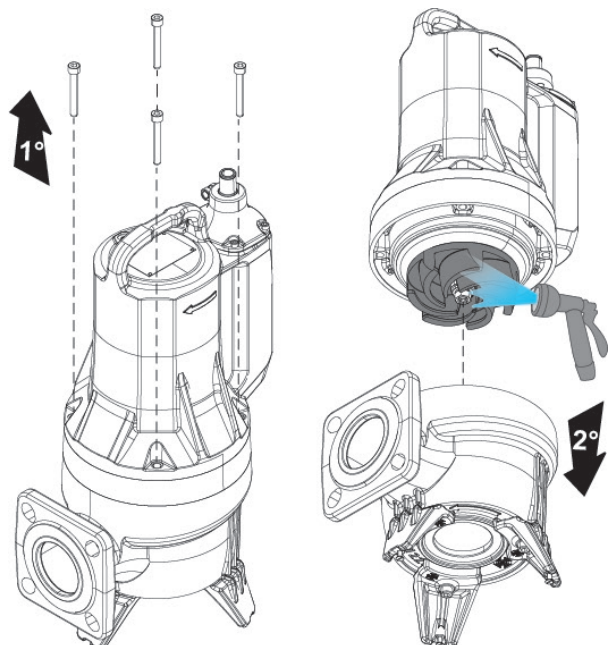

Fig.10
- **Impeller cleaning (Fig. 10)**